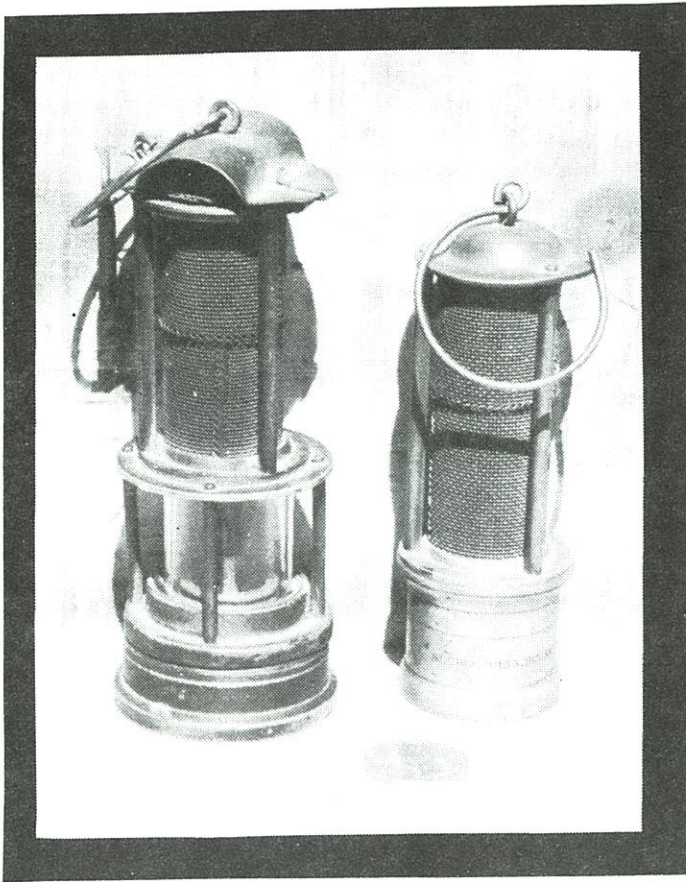

Figure 1. A photograph of a miniature Clanny (left) and Davy (right) Safety Lamp. Note the quarter in the foreground as a size comparison.
**Figure 3.** This 12" candlestick is virtually the same as the candlestick shown in Figures 1 and 2 except for the thimble cutouts, and the absence of a V nickel inlaid into the circle. (Jim Steinberg collection)